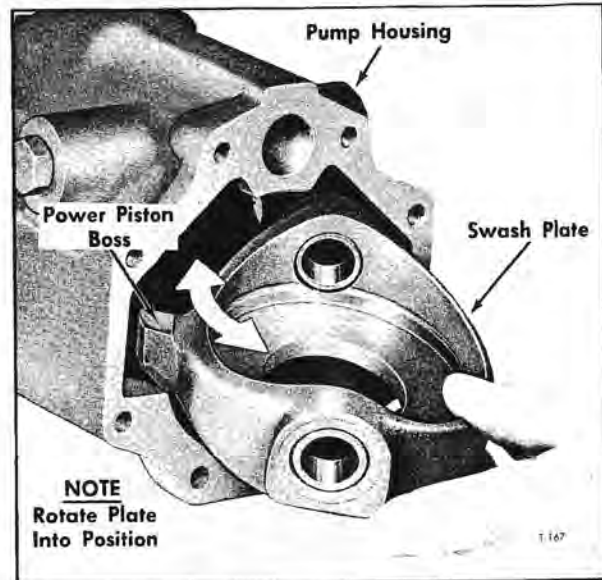

Figure 47—Replacing Pump Swash Plate
trunnion flange in relation to housing to assure original position when reassembling. Using a spanner wrench or similar tool, remove trunnions (47) being careful to support swash plate (7) while this is being done. Remove trunnion thrust washers (5) and swash plate from housing. The swash plate will have to be tipped slightly forward and turned while in an upright position, then rotated to be removed. See figure 47.
15. Remove O-rings (46) from each swash plate trunnion (47).
1. Place swash plate (7) with assembled trunnion bearings (6) into pump housing as shown in figure 47. Note position of power piston lug on swash plate - must be facing up.
2. Inspect O-ring (46) on trunnions and replace if any nicks or scratches are present. Place O-ring on trunnion.
3. Note that trunnion (47) wear pattern is on one side of trunnion, and in reassembly this wear pattern should be placed so it faces the pulley end